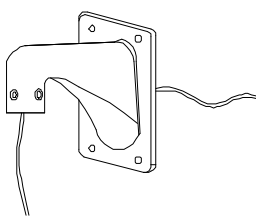

Figure8
- 2) Take out system control wires from the bracket (see Figure 8).